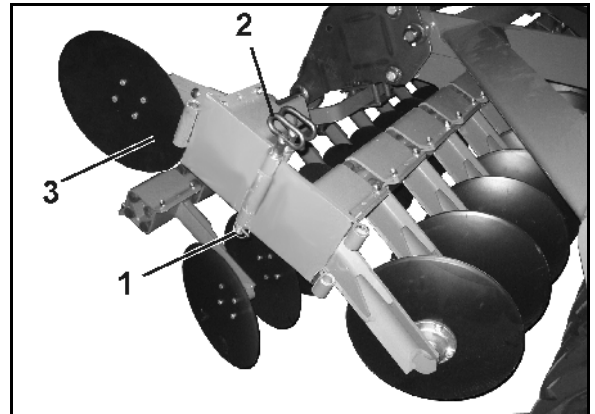

Fig. 58
- 2.1 Release the lynch pin (Fig. 58/1).
- 2.2 Pull out the locating pin (Fig. 58/2).
- 2.3 Swivel in the side discs (Fig. 58/3) and secure in this position with the locating pin.